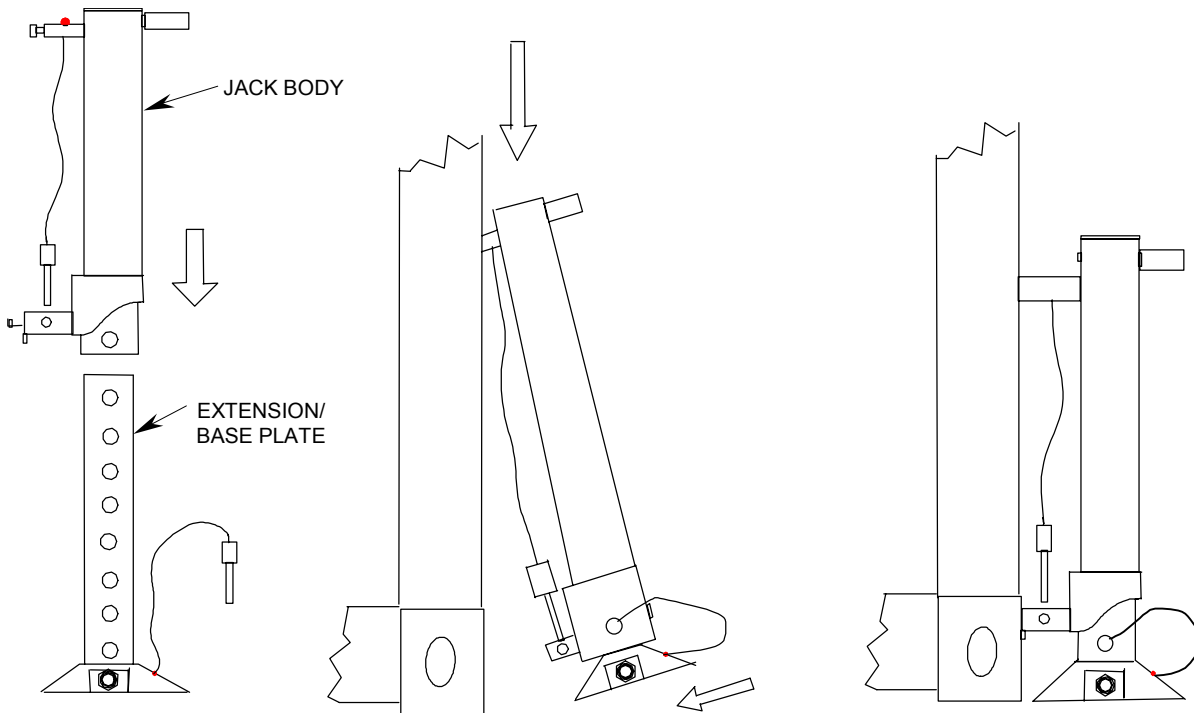

Figure 2. Corner Jack Installation.
- Referring to Figure 2, insert a corner jack extension/base plate into each corner jack body as far as it will go. Align the bottom hole in the extension/base plate with the hole in the jack body and insert the attached locking pin to hold the extension/base plate in place. Using a jack/winch handle, ensure that the jack mechanisms are rotated fully counter-clockwise (lowered).
- The corner jacks will first be installed at the personnel door end of the container. Referring to Figure 2, and starting at either corner, attach a corner jack by inserting the studs on the jack into the end holes in the corner block. Turn the twist lock on the lower stud 90° in either direction to line up one of the arrows stamped on it with the hole in the stud. Pull the jack back slightly so the twist lock contacts the inside of the corner block. Insert the attached locking pin into the twist lock.